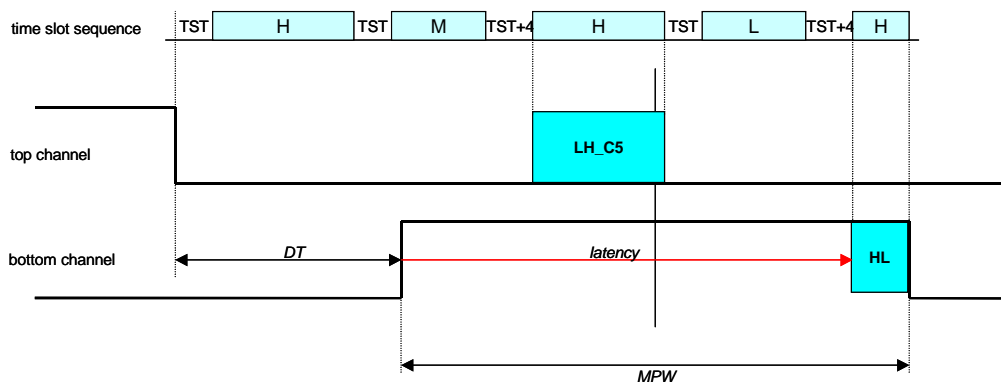
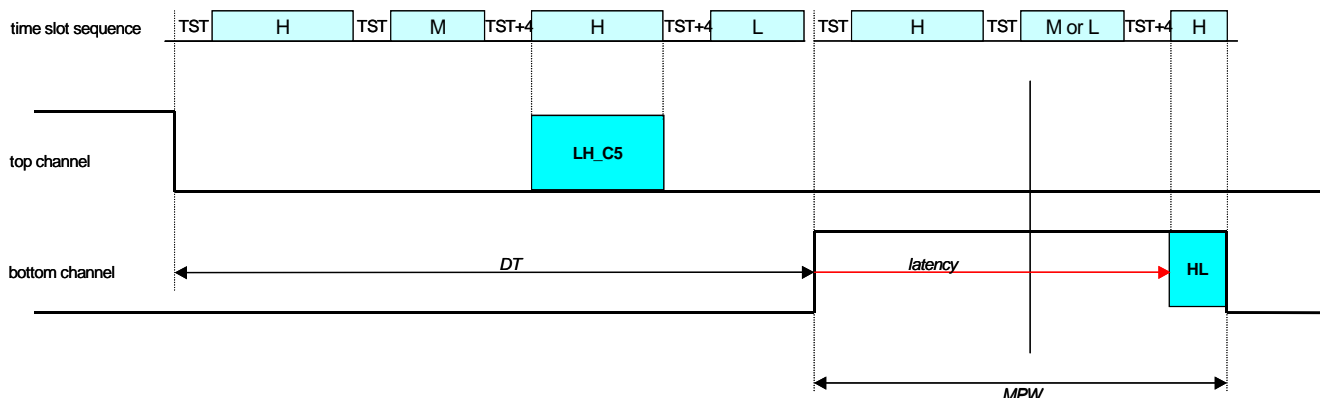

Figure 7. Worst case timing – case one
Figure 8. Worst case timing – case two
In this instance, one of the two worst case timing cases can happen. These are illustrated in Figure 7 and Figure 8. Which case occurs depends on the DT .
- The first case can occur when the *DT* (in IMB clock cycles) is less than $TST + H + TST + M + TST+4 + LH_C5 + TST+4 + L$ (see Figure 8) that is $4 * TST + 8 + H + M + L + LH_C5$ that is $76 + H + M + L$ IMB clock cycles.
- In **case one** the *MPW* is (according to Figure 7)
- In **case two** the MPW is (according to **Figure 8**) $TST + H + TST + \max(M,L) + TST+4 + HL$ that is $40 + H + \max(M,L)$ IMB clock cycles.